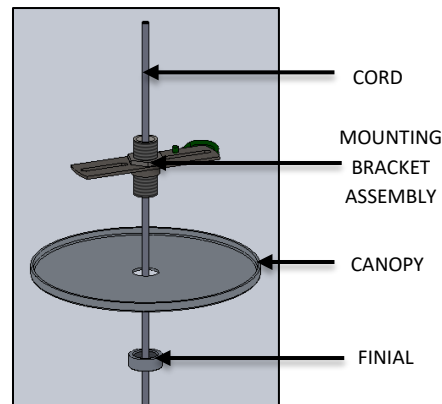

FIG. 24 - CORD INSTALLATION
1. INSERT CORD into CANOPY FINIAL (THREADS UP), CANOPY and MOUNTING BRACKET as shown in FIG.24 and adjust fixture drop to desired height.